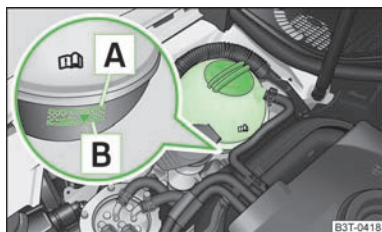

Fig. 145
When refilling, we only recommend you use the same antifreeze written on the antifreeze expansion tank » Fig. 145.
- Check the level of coolant in the coolant expansion bottle » Fig. 145. The coolant level when the engine is cold must lie between the **B** (MIN) and **A** (MAX) markings. The level may also rise slightly above the **A** (MAX) marking when the engine is warm.
- Place a cloth over the cap of the coolant expansion reservoir » Fig. 145 and unscrew the cap **carefully**.
Do not fill the coolant above the mark **A** (max.) » Fig. 145! Excess coolant heats up and then is forced out of the cooling system through the pressure relief valve in the cap.